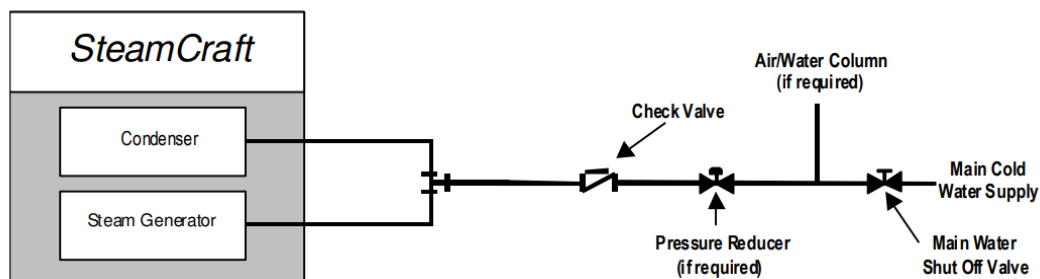

Figure 3-4 Cleveland Range Single Water Supply Arrangement
- If the static pressure is above 60 psi, a pressure regulator must be used and set at approximately 50 psi. Pressure above 60 psi can damage solenoid valves. See Figures 3-4 and 3-5.
- If the water supply meets requirements shown in the Warranty, then the Single Water Supply Arrangement shown in Figure 3-4 may be used.